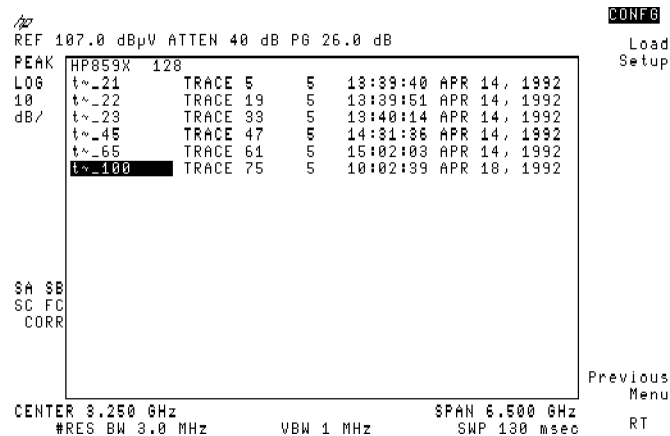

Figure 3-49. Selecting Custom Setup File
- 36. Scroll to the desired file (in this case, 100). See Figure 3-49.